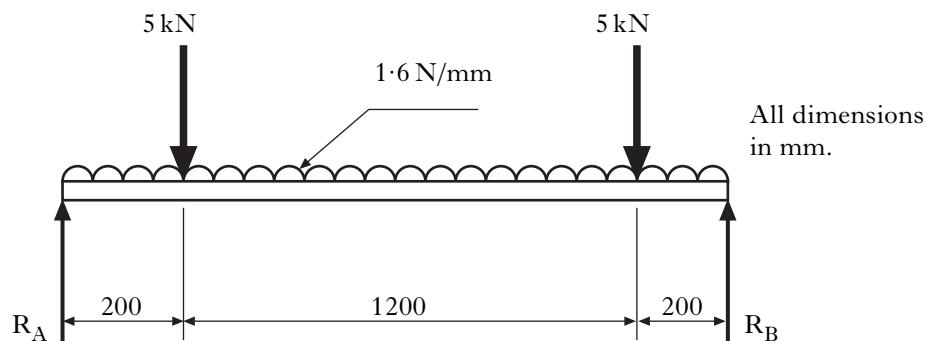

Figure Q8(b)
- (a) Calculate, for the loading conditions shown in Figure Q8(b):